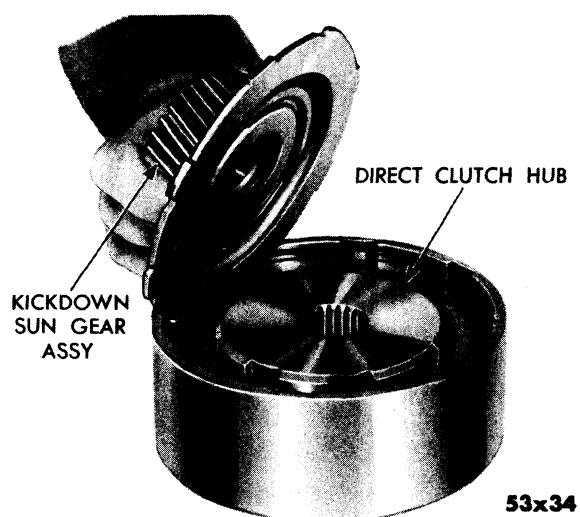
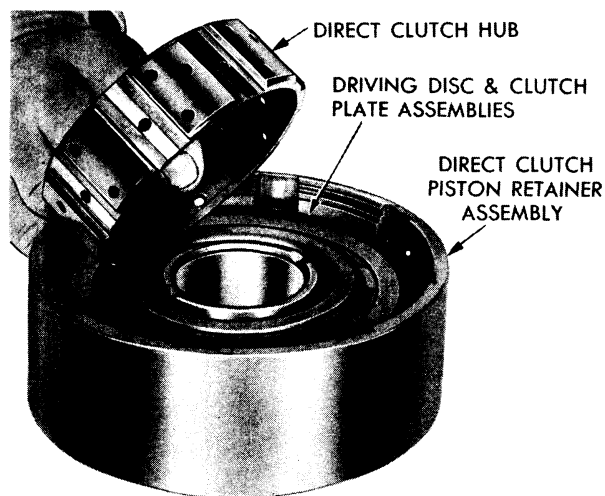

Fig. 84—Removal and Installation of Kickdown Sun Gear
Fig. 85—Removal of Direct Clutch Hub
- (2) Lift out kickdown sun gear assembly. (Fig. 84.) Note oil slinger on reverse side. Inspect for clutch material obstructing oil passages and slinger. Remove any foreign material which may have accumulated on front side. Inspect driving disc contact surface for evidence of burning or scoring.
- (3) Inspect sun gear for cracked or broken teeth.
- (4) Lift out direct clutch hub from center of direct clutch piston retainer. (Fig. 85.) Oil passages in hub lubricate the clutch plates and driving discs when clutch is in released position (all positions except direct). Inspect clutch hub driving lugs for wear, and remove any metal pickup which may have